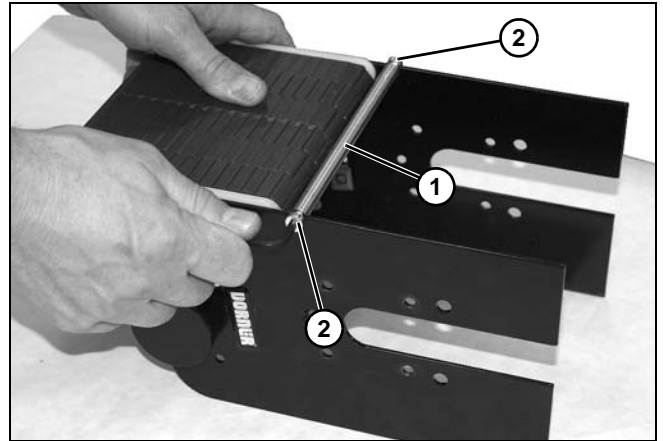

Figure 141
9. Install rod (**Figure 141, item 1**) and secure with socket head screw (**Figure 141, item 2**) each side of transfer tail.